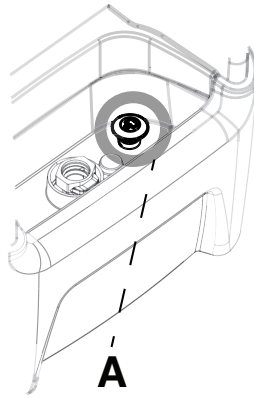

Figure 30 – Drain plug
3. To drain the controller, pull up on the controller drain plug (A) to open the drain (Figure 30). Leave the drain open.